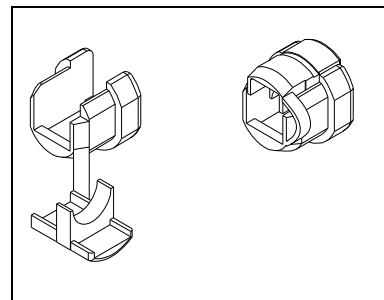
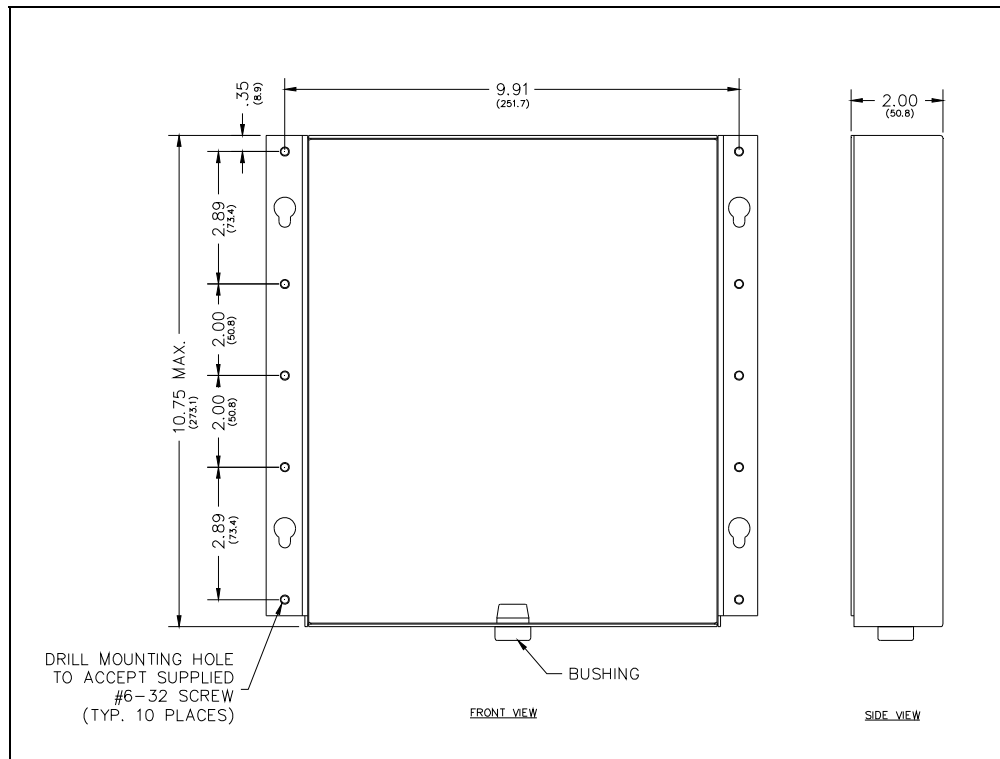
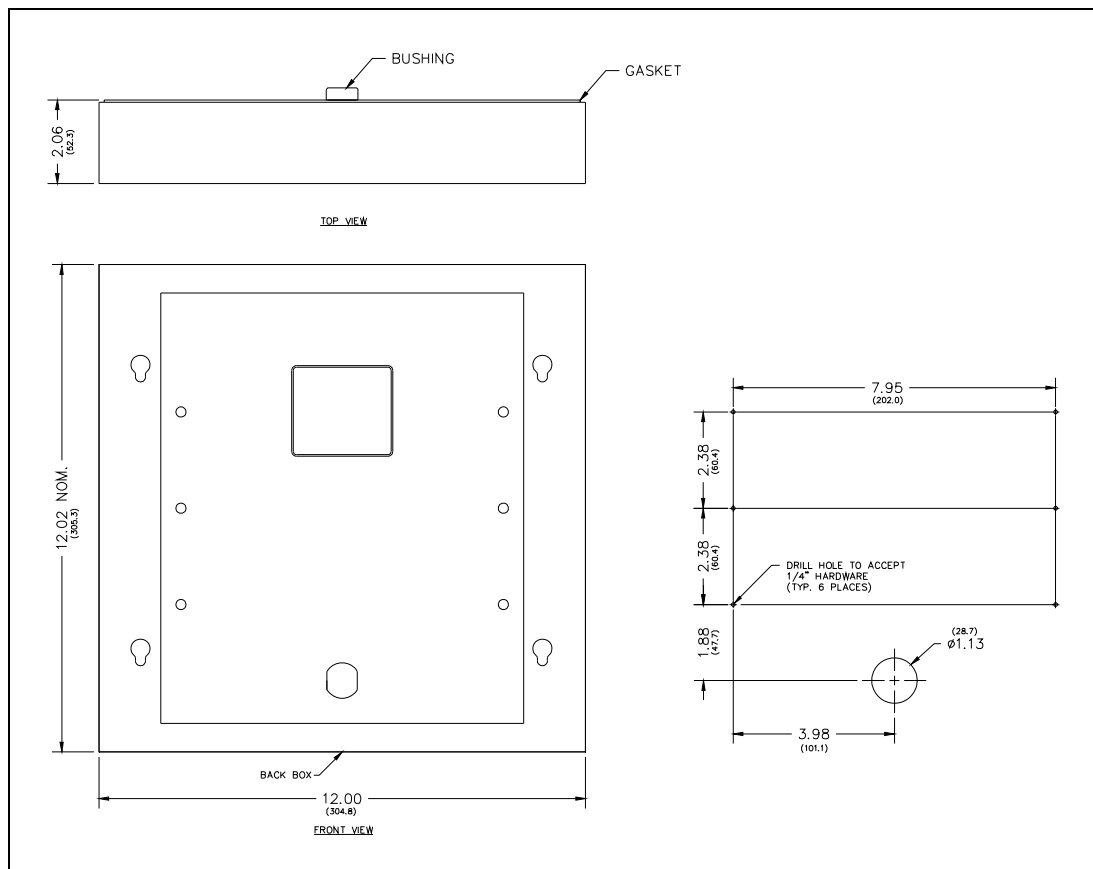

Figure 4. Bushing
Figure 7. Back Box for Model 295-702F
Figure 8. Mounting the Model 295-702W
4. *If using Power-over-Ethernet, with no optional inputs or outputs:* place the bushing around the Ethernet cable so that it is located approximately 5 inches from the end of the cable. Snap the bushing closed and insert into the double **D** hole in the bottom of the back bracket. See Figure 4 and Figure 7.
5. *If using local power or optional inputs or outputs:* route the cables through the **D** hole in the bottom of the back bracket (see Figure 7).
6. Place the back bracket in the wall. Locate the mounting holes (see Figure 7).
2. *If using Power-over-Ethernet, with no optional inputs or outputs:* place the bushing around the Ethernet cable so that it is located approximately 5 inches from the end of the cable. Snap the bushing closed and insert it into the double **D** hole in the back box (see Figure 4 and Figure 8).
3. *If using local power or optional inputs or outputs:* route the cables through the **D** hole in the bottom of the back box (see Figure 4 and Figure 8).